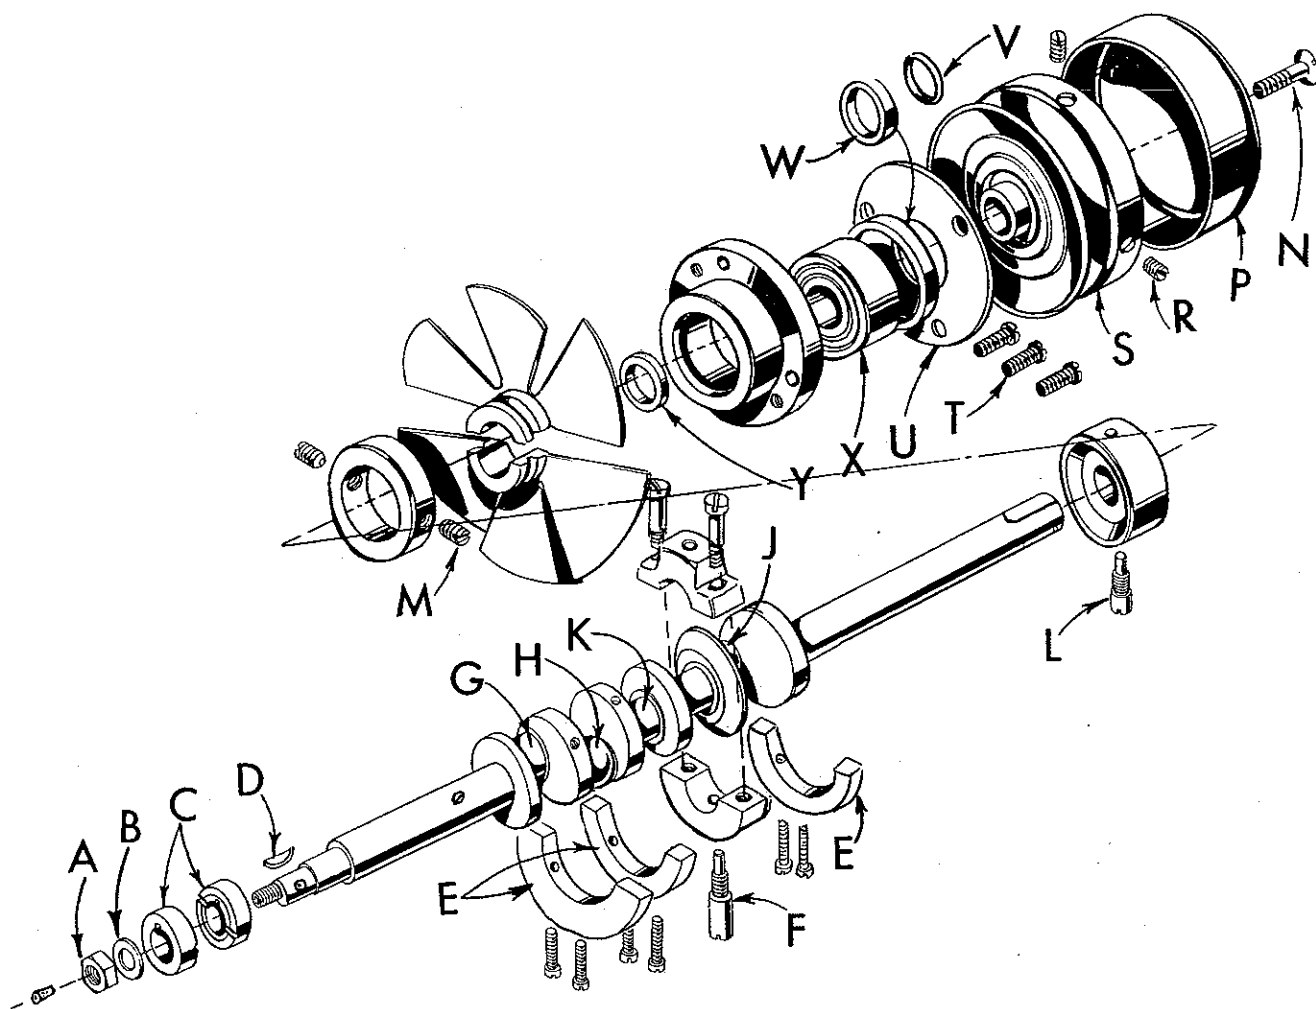
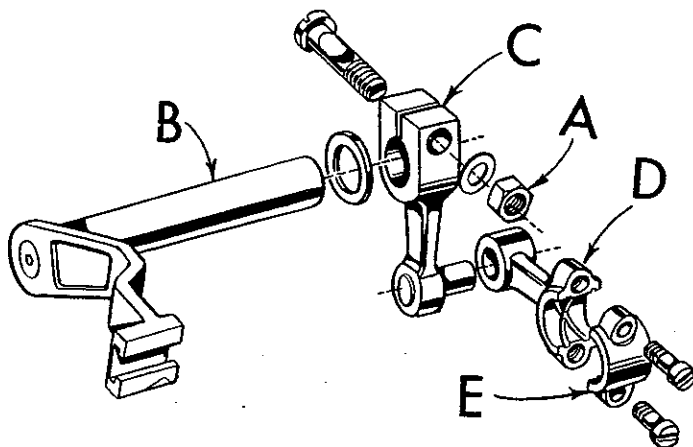

Fig. 20
Fig. 21
3. Remove feed eccentric nut (A, Fig. 20) and washer (B), and, with the aid of the eccentric extractor, slip off the eccentrics (C).
4. Remove key (D).
5. Remove three counterweights (E). Identify these counterweights so that they will be re-assembled in the proper places.
6. Remove screw (F) which holds crankshaft split bearing. This screw is reached through bottom of bed casting.
8. Loosen clamp nut (A, Fig. 21) which holds upper knife driving arm (B). Access to clamp nut is through top cover. Draw driving arm to the left until upper knife driving lever (C) and connecting rod (D) drop, allowing removal of bearing cap (E). This is at bearing point (K, Fig. 20) on crank shaft. Observe same precautions when re-assembling cap as described in 7 above.
9. Remove screw (L, Fig. 20) which holds inner right crankshaft bearing. This screw is reached through bottom of bed casting.
10. Loosen two screws (M) in fan collar; remove both halves of cooling fan.
11. Remove screw (N); take off pulley cap (P).
12. Loosen two screws (R); remove pulley (S).
13. Remove three screws (T); take off bearing retaining plate (U); also, spacer collars (V) and (W) may be removed at this time.
15. If necessary to replace ball bearing (X), it should be pressed off shaft on an arbor press. In replacing bearing it must be pressed on carefully until it seats against ground thrust washer (Y).